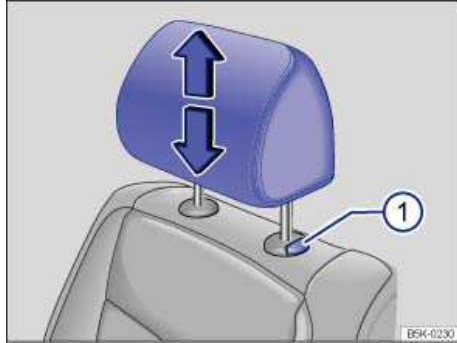

Fig. 37 Adjusting the head restraints.
- Pull the head restraint up in the direction of the arrow, or push it down while pressing the button ⇒ fig. 37 (1) ⇒ .